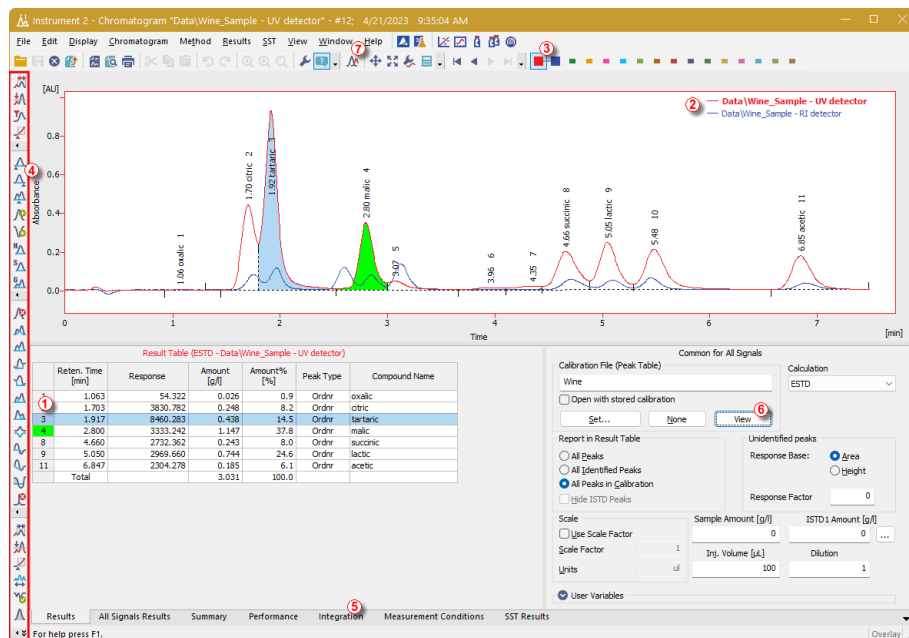

Fig. 15: The Chromatogram window
- Multiple chromatograms may be displayed at once. Switch to the *Overlay* mode by pressing the *Overlay*  button found on the *Overlay* toolbar ( in **Fig. 15** on pg. 25.) and then open all reprocessed chromatograms altogether. You can click the *Overlay*  button again to close all the chromatograms except the currently active one.